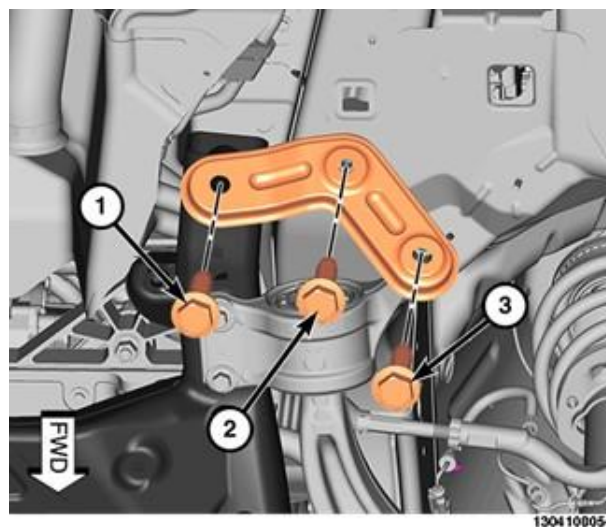

Figure 49 – Shear Bracket
74. Remove and **DISCARD** the three shear bracket bolts then remove the shear bracket on each side of the vehicle (Figure 49).